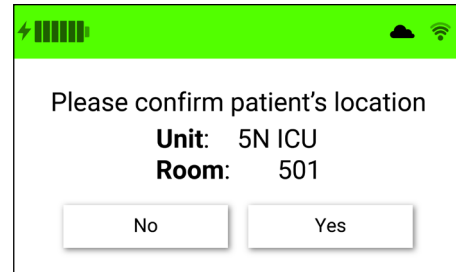

Figure 30. Validate patient unit and room number screen
1. Whenever the Guardian System is unplugged and then plugged back into AC power during use, it will prompt the user to validate the current patient unit and room number. (Fig. 30)